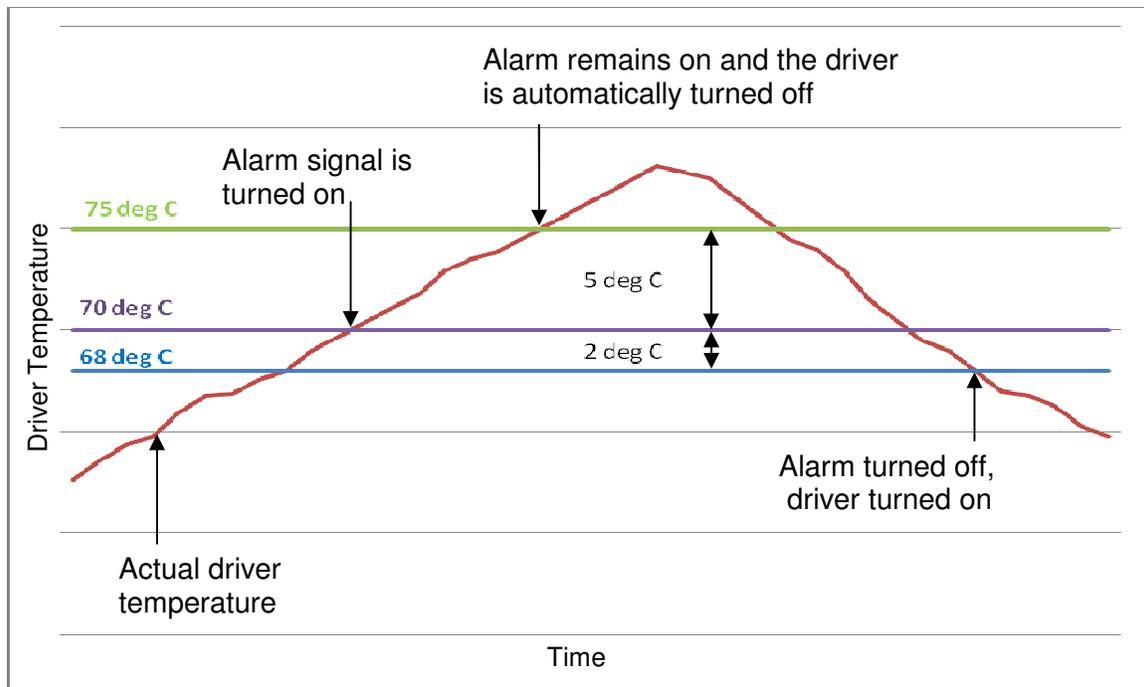

Figure 6.0
For details on the over temperature alarm, see Figure 6.0.
**8. Over Temperature Shutdown** - Determines whether or not the DMX-K-DRV-23 disables when the temperature rises above a specified threshold. See Figure 6.0 for details.